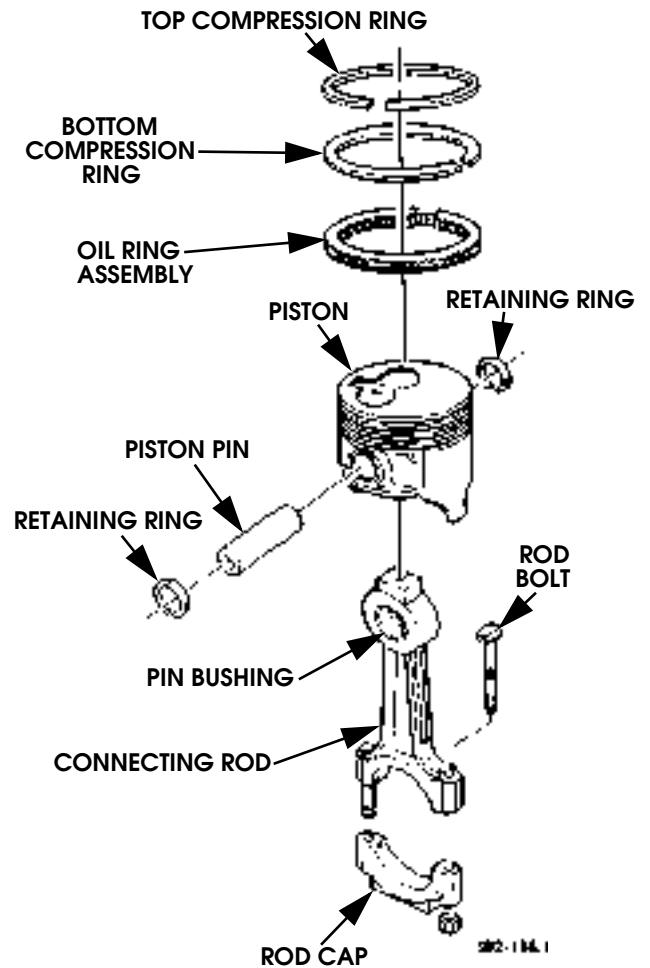

Figure 2-117: Connecting Rod and Piston Assembly
- d. Separate piston, and rod, and pin (Figure 2-117).